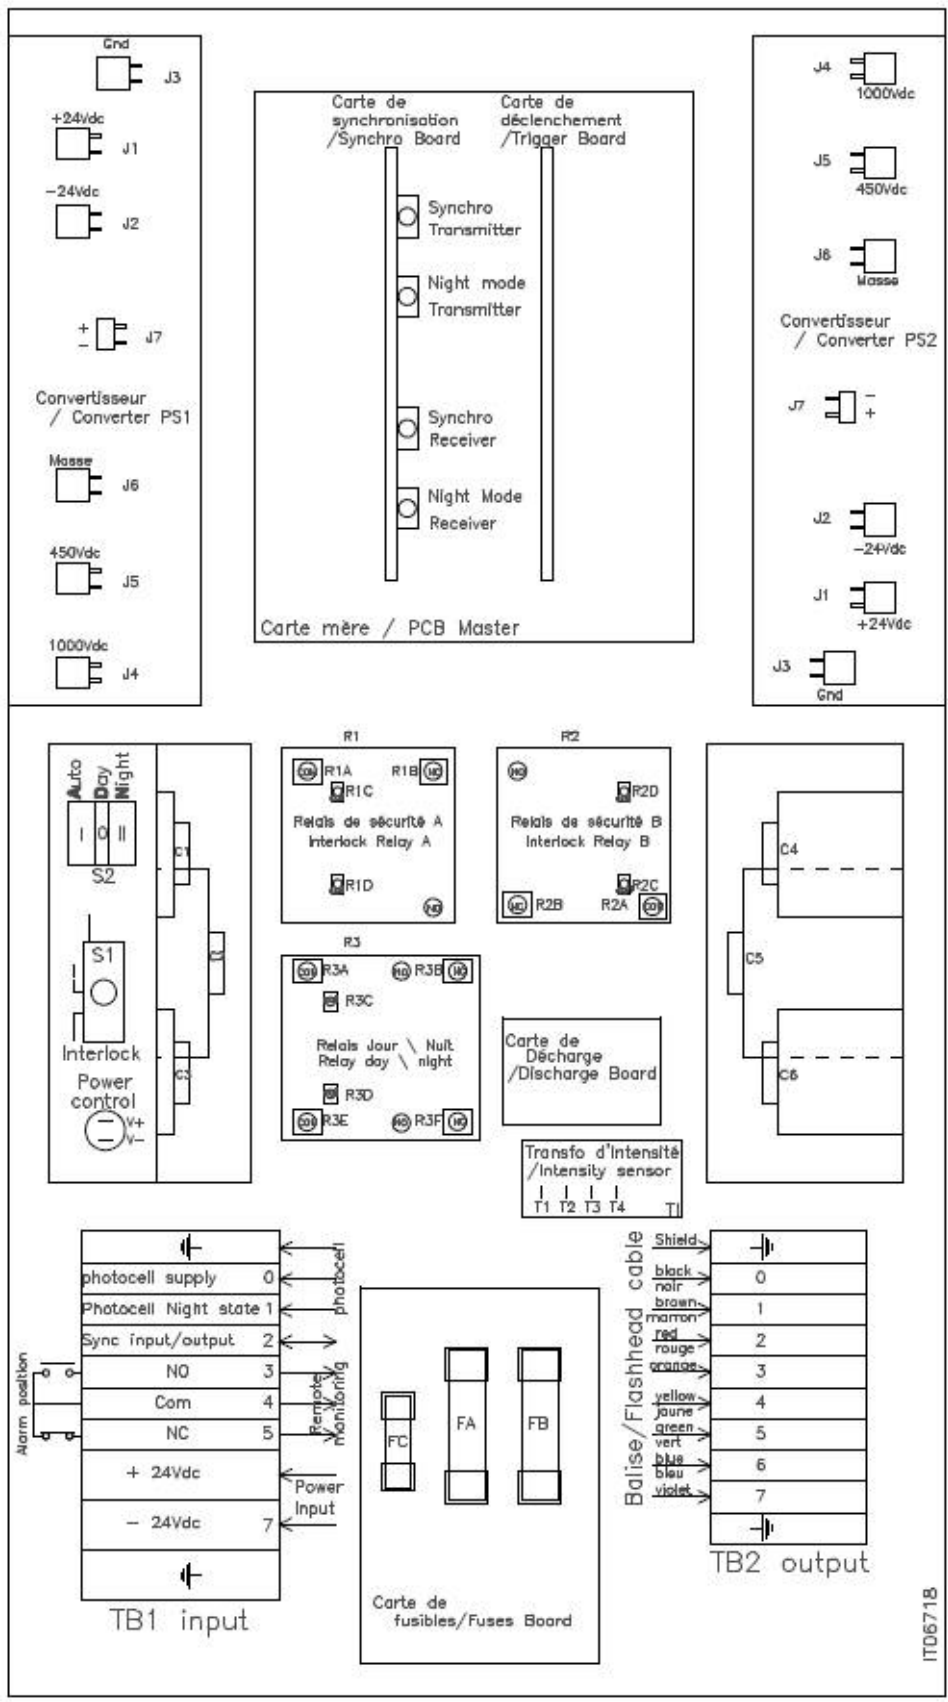
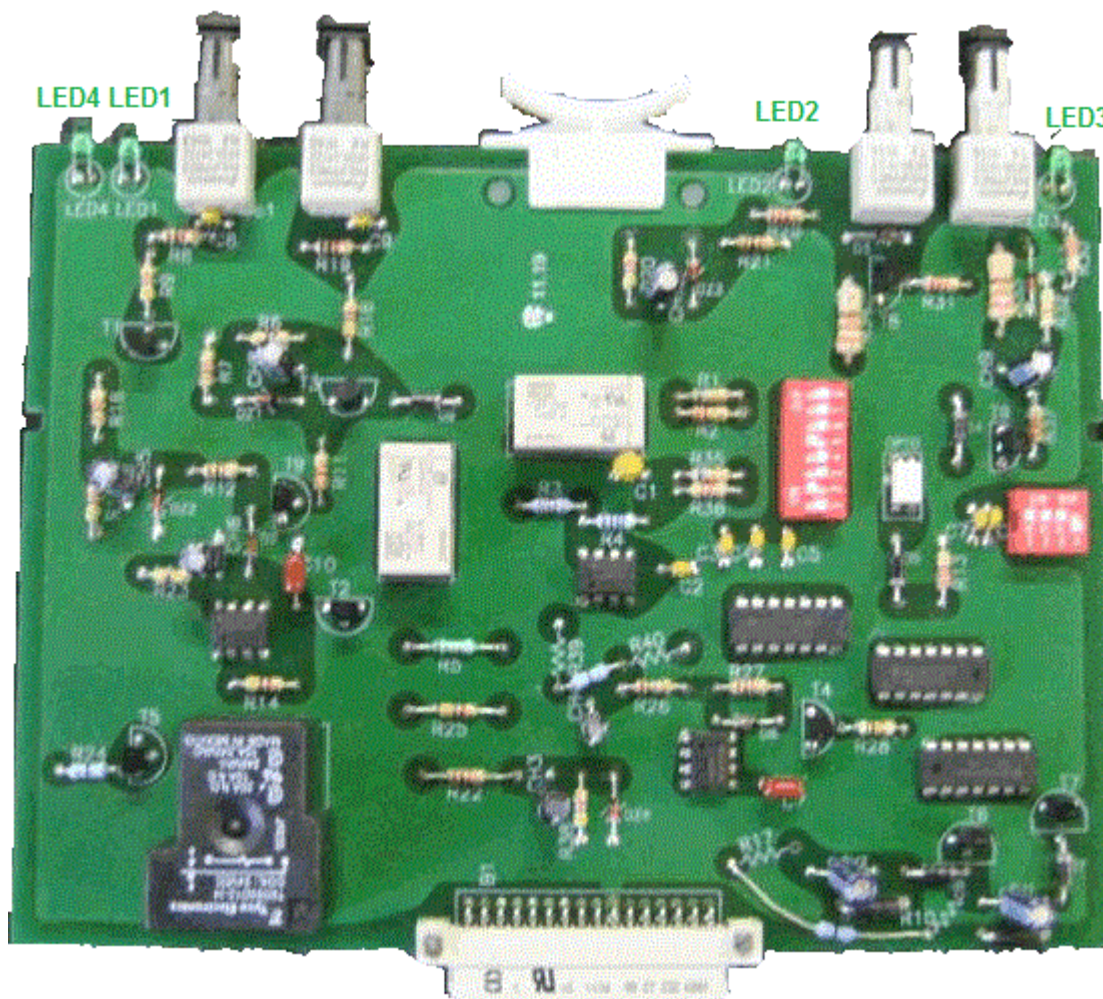

Figure 1-1. POWER SUPPLY COMPONENT LOCATIONS P/N13821 & P/N13820
FIGURE 4-2. SYNCHRONISATION PRINTED CIRCUIT BOARD WITH OPTICAL TRANSMETER AND RECEIVER
The OBSTAFLASH Xe Lighting System is a capacitor discharge, xenon flash strobe light system manufactured to comply with ICAO annex 14 chapter 6 and Federal Aviation Administration Advisory Circular 150/5345-43. Each system consists of an omnidirectional flashhead, an associated power supply with integrated controls, an optional ambient light sensor (photocell P/N00754), and an interconnecting cable P/N13805 (up to 300 meters in length). System components are shown in Figures 1-1 and 1-2 page 5 and 6. Modifications may be made to suit different applications.
The DC main power input to the power supply is converted through the 2 converters PS1 & PS2 P/N13860 (see figure 1-1) to approximately 1000 VDC to the 2 flashtubes P/N13840 in the flashhead and to charge their storage capacitors P/N13861 and P/N13862. The ambient light sensor P/N00754 (or GPS synchronizer P/N13746) sends correct control signals to the power supply to automatically change the intensity of the flashhead.
Test switch S2 is located on the switch board and allows the system to operate in remote, day or night mode. The switch S2 should be left in the **remote** position (in normal operation when connected to a photocell, a gps, or in synchronization mode) or **day or night** position for testing continuous operation (see figure 1-1).
4.2.1 Sync/Monitor Printed Circuit Board P/N13864 (Figure 4-2, page 16)
This system in option is implemented on the synchronisation card with 2 optical transmitters (between LED2 and LED3) and 2 optical receivers (close to LED4 and LED1), see figure 4.2 below). For cabling, see figure 1.1.